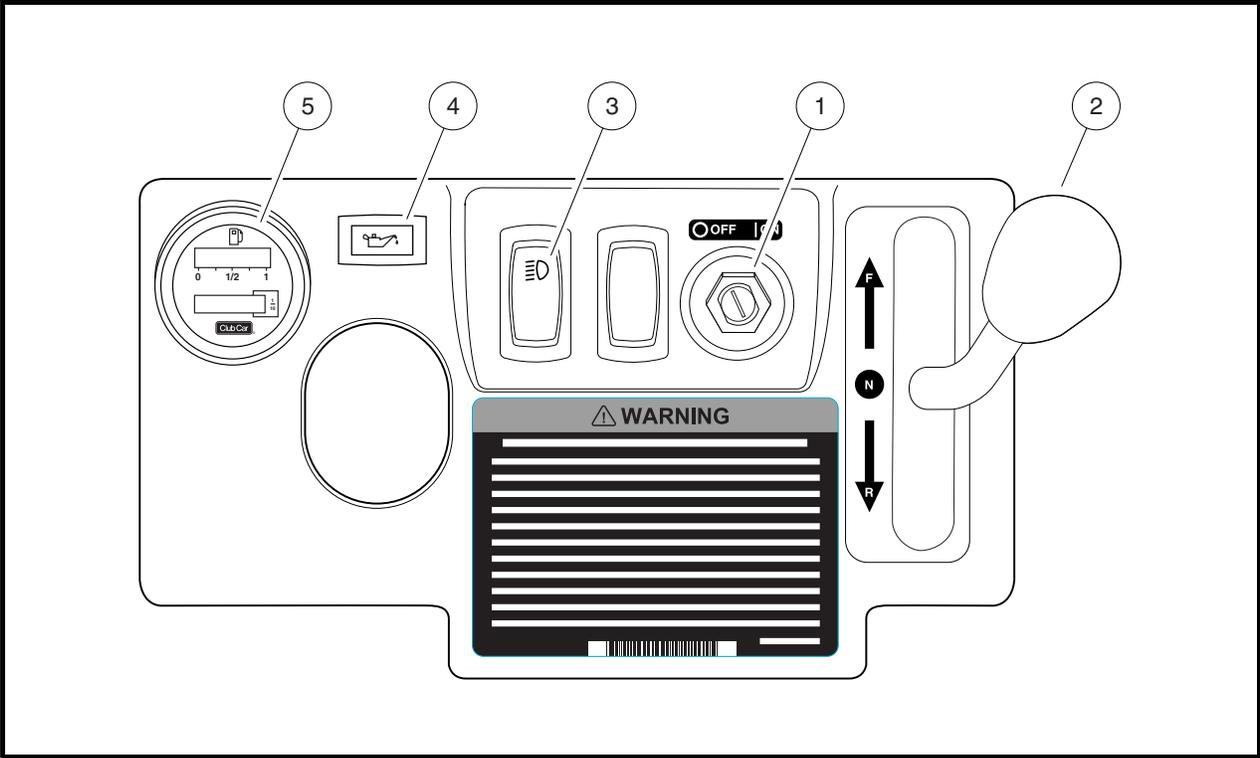
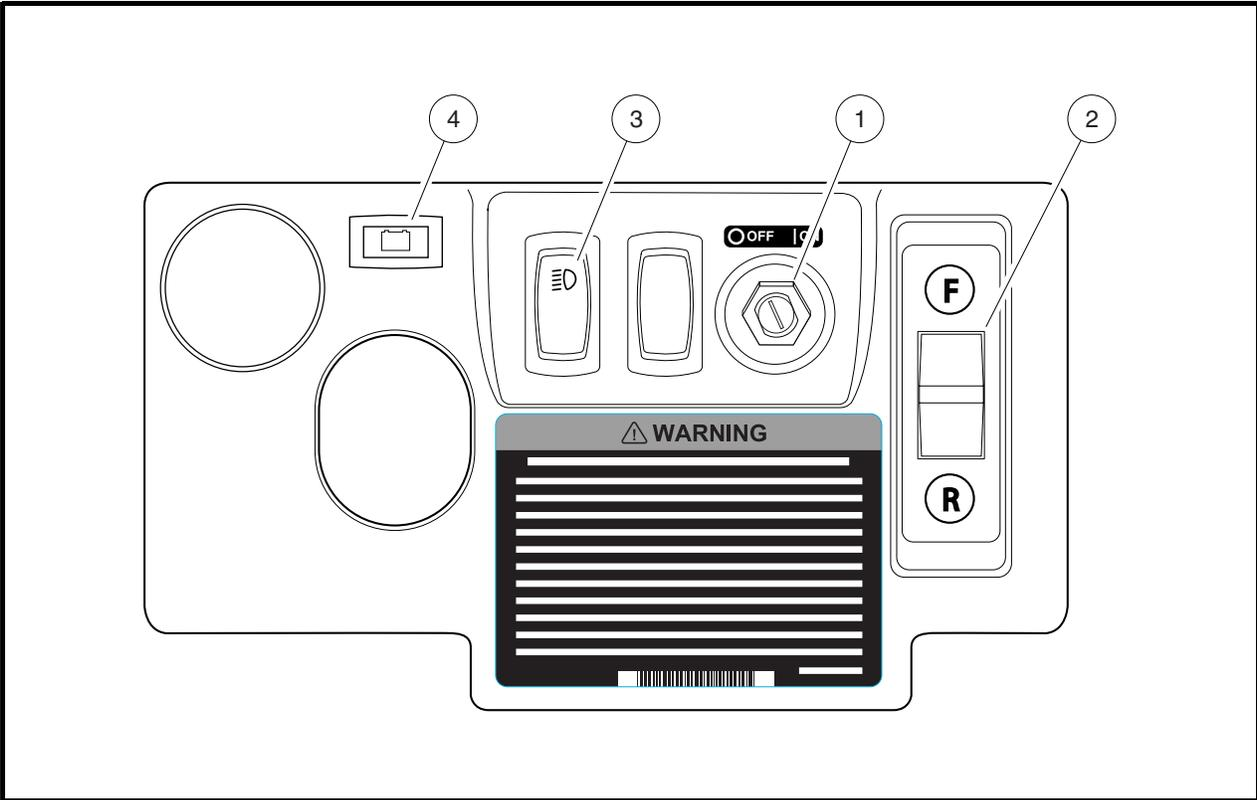

Figure 6 Instrument Panel – Gasoline Vehicles
Figure 7 Instrument Panel – Electric Vehicles
The key switch (1) is mounted on the dash to the right of the steering column (**Figure 6** or **Figure 7**).
The Forward/Reverse handle (2) is located on the right-hand side of the instrument panel (**Figure 6**). The handle has three distinct positions: **F** (FORWARD), **N** (NEUTRAL), and **R** (REVERSE). Push the handle up to operate the vehicle in the forward direction, or pull the handle down to operate the vehicle in reverse. Club Car vehicles operate at reduced speed in reverse. The reverse buzzer will sound as a warning when the Forward/Reverse handle is in the REVERSE position.
The Forward/Reverse rocker switch (2) is located on the right-hand side of the instrument panel (**Figure 7**). The **F** (FORWARD) and **R** (REVERSE) positions are clearly marked. Press the FORWARD side of the switch to operate the vehicle in the forward direction, or press the REVERSE side of the switch to operate the vehicle in reverse. When the rocker switch is positioned in NEUTRAL, with neither side down, the vehicle will not operate if the accelerator pedal is pressed. The reverse buzzer will sound as a warning when the Forward/Reverse switch is in the REVERSE position.
The headlamp switch (3) is located on the instrument panel to the right of the steering column (**Figure 6** or **Figure 7**). Press the side of the switch with the headlamp symbol to turn the headlamps on and press the other side to turn the headlamps off.
The gasoline vehicle is equipped with a low oil warning lamp (4), located on the instrument panel just above the steering column (**Figure 6**). If the warning lamp comes on, oil should be checked and added to the engine as necessary before continuing to use the vehicle. The vehicle should never be driven when the low oil warning lamp remains on. If the warning lamp goes on and off, the vehicle may be driven, but oil should be added at the first opportunity. If the oil level is correct and the warning lamp stays on, have a trained technician check the vehicle.
The gasoline vehicle is equipped with a fuel gauge/hour meter (5), located on the instrument panel (**Figure 6**). The fuel gauge allows the operator to monitor the fuel level in the vehicle. The hour meter should be used by the trained technician to track vehicle usage and determine when periodic service procedures are required. **See Periodic Service Schedule on page 44.**
Electric vehicles feature a dash mounted warning lamp (4) (above steering column) that, when the vehicle is in operation, indicates low battery voltage or, when the vehicle is being charged, indicates a charging problem (**Figure 7**). The battery warning lamp is controlled by the onboard computer.